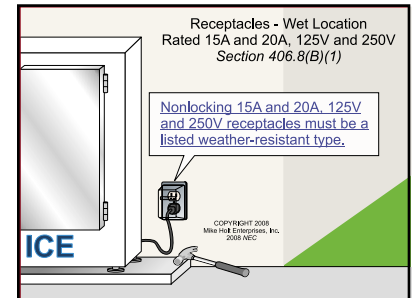

Figure 406-4
(1) 15A and 20A Receptacles. All 15A and 20A receptacles installed in a wet location shall be within an enclosure that is weatherproof when an attachment plug is inserted and all nonlocking 15A and 20A, 125V and 250V receptacles in a wet location shall be listed as weather resistant. (See *Figure 406-4*)